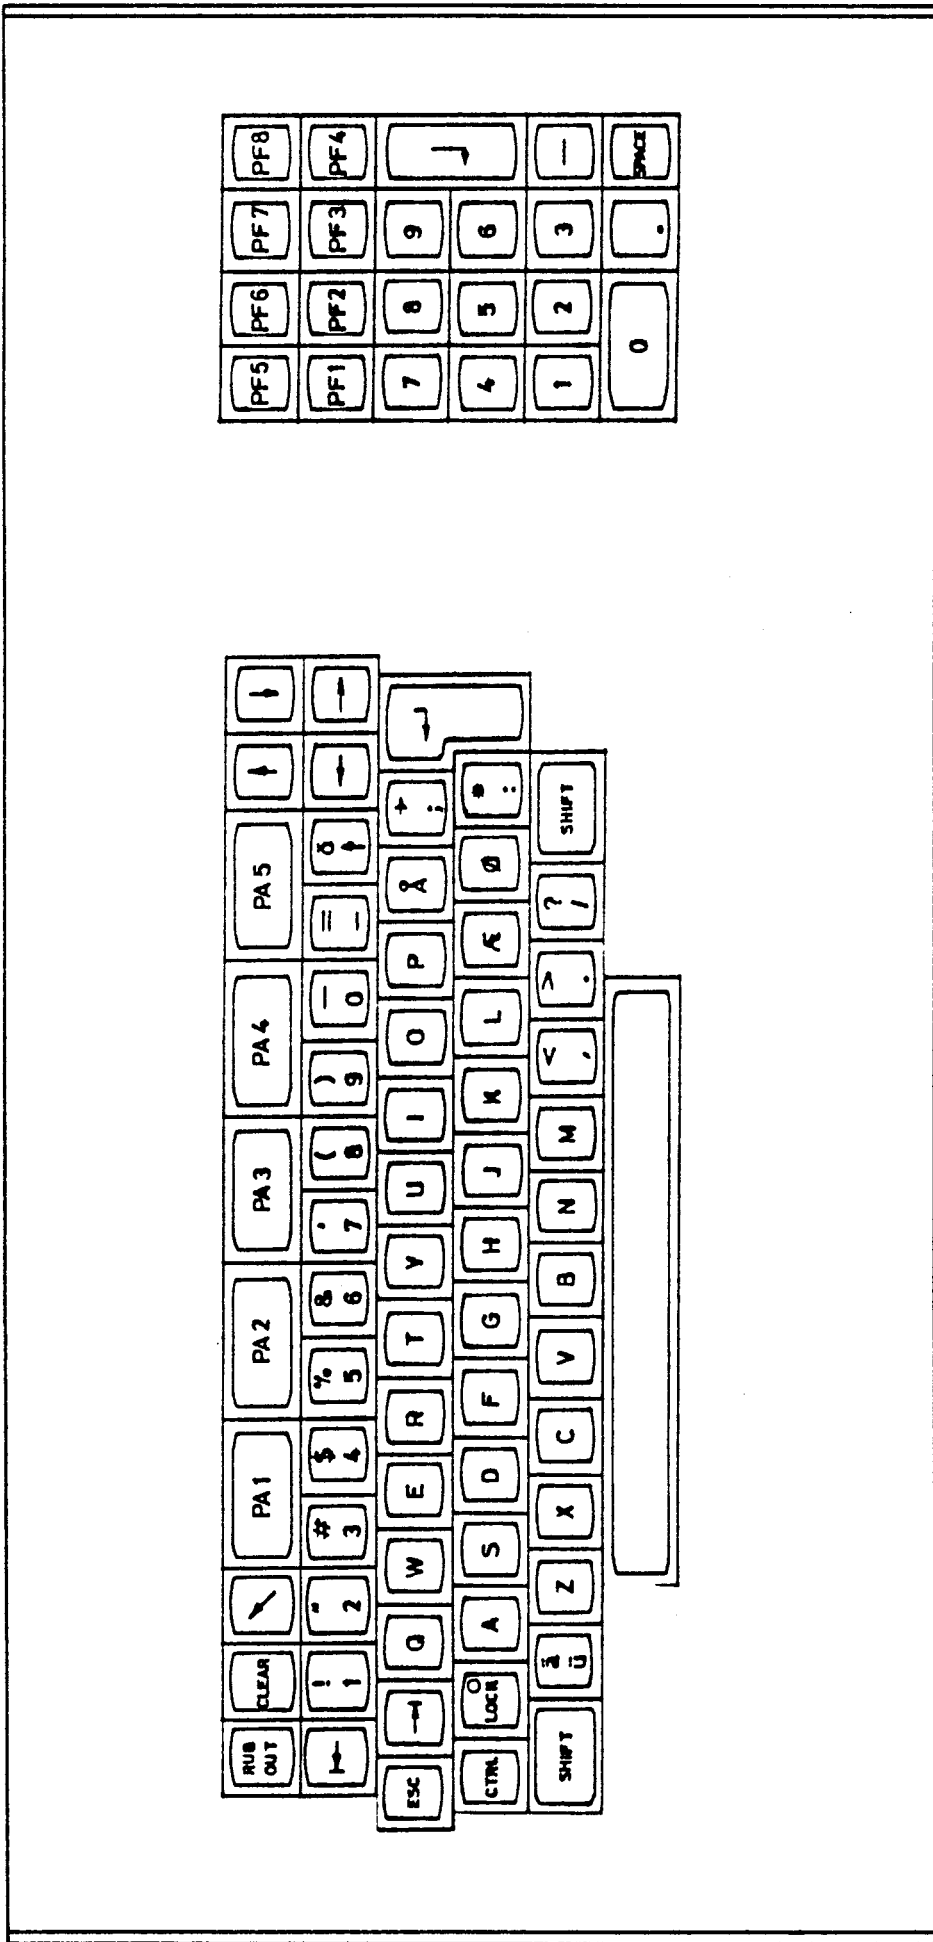

Fig 10 LAY OUT RC 722, 001 DANISH
- fig. 10 shows RC722,001 keyboard Danish alphabet.